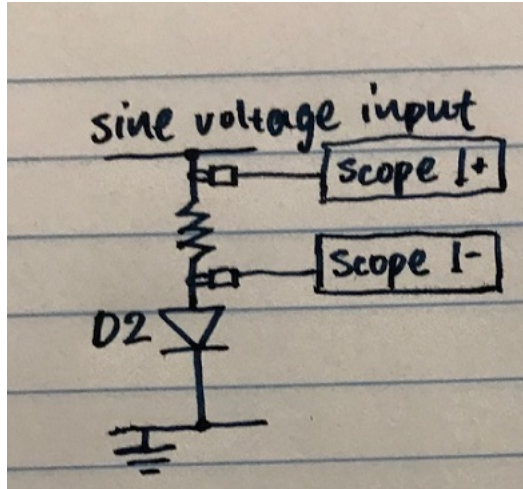
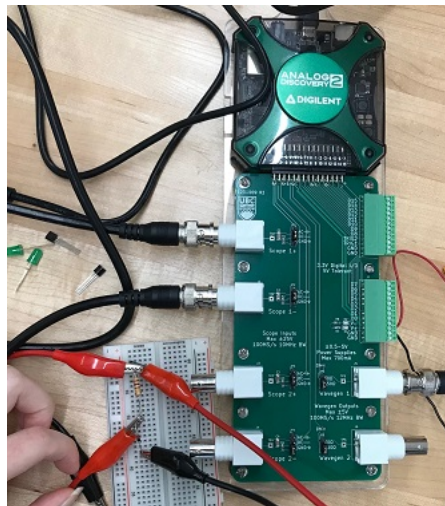

Figure 12: Updated circuit diagram for creating a rectified sine wave
Figure 13: Circuit setup on breadboard for reading rectified sine wave
- I start by setting up the circuit on the breadboard like in Figure 12. The setup is depicted in Figure 13, where I have Scope 1+ and Scope 1- reading the voltage across the resistor